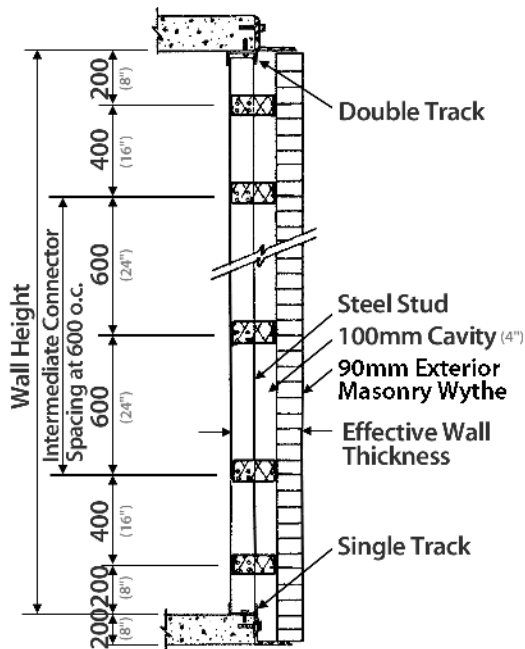

Figure 6 Stud Shear™ Connector Vertical Spacing
8. Stud Shear™ Connector spacing: 400 mm (16") horizontally; vertically as per Figure 6.